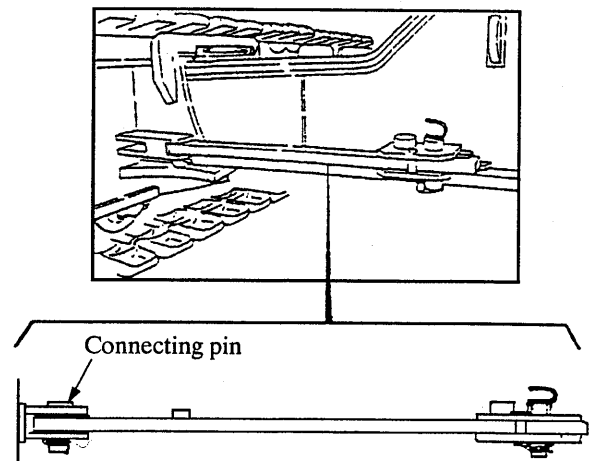

Fig. 11-19
- (5) Remove the connecting pins "C" (front and rear) of the link connecting the crawler to be removed with the axle. (Fig. 11-19)